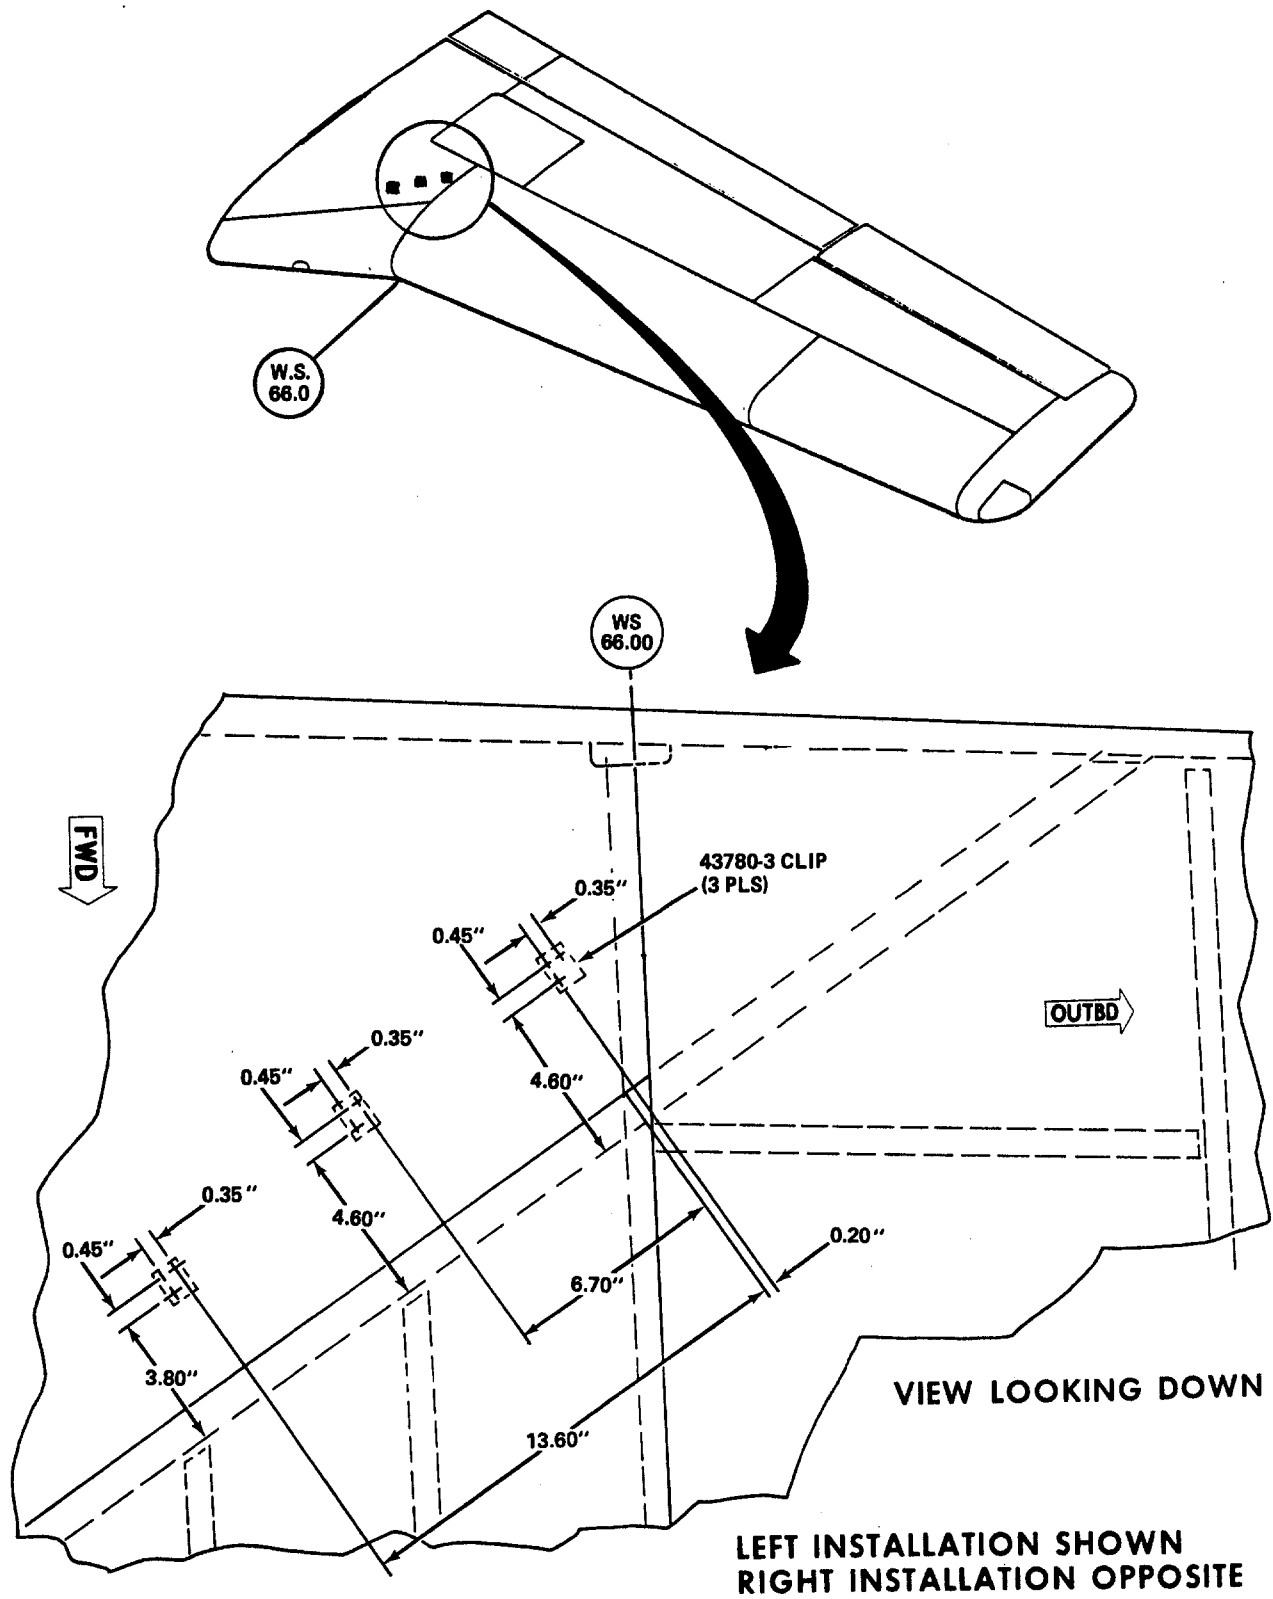

Figure 1
4. Locate, drill and install 43780-3 clip (3 places) on lower side of wing skin in left wheel well using MS20426AD3 rivets. Rivet heads are to be on top of wing skin (refer to Figure 1).
5. Locate, drill and install 43780-4 clip (3 places) on lower side of wing skin in right wheel well using MS20426AD3 rivets. Rivet heads are to be on top of wing skin (refer to Figure 1).